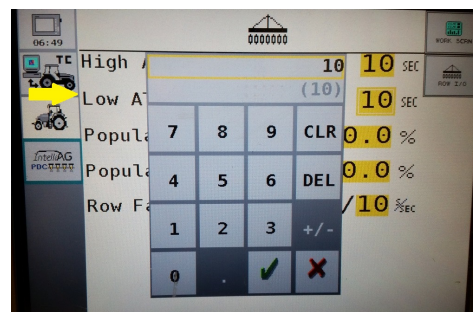

Figure 33
Step 4. Select **Low Alarm Delay** and enter. This is the amount of time you want VT to pause before you are warned of low population. The factory default is 10 seconds. (Figure 33)